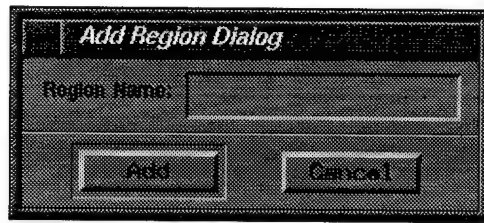

Figure 6 – The 'Add Region Dialog' window
10. This pops up the 'Add Region Dialog' window (Figure 6) which has a box for the region name.